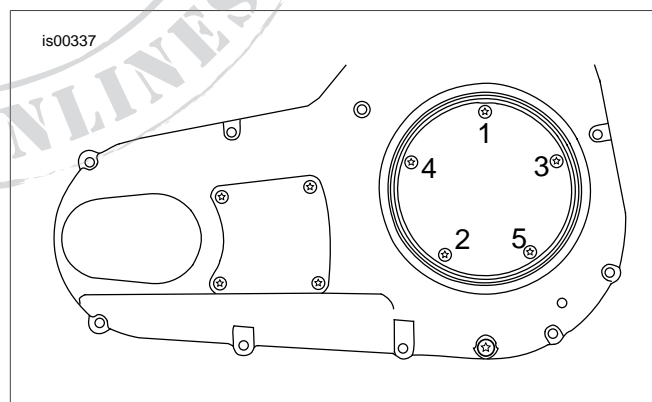

Figure 1. Torque Sequence, Clutch Inspection Cover
5. Install derby cover (1) and gasket on primary chaincase cover using screws and washers from the kit. Tighten screws to 84-108 **in-lbs** (10-12 Nm) in the sequence shown in Figure 1.